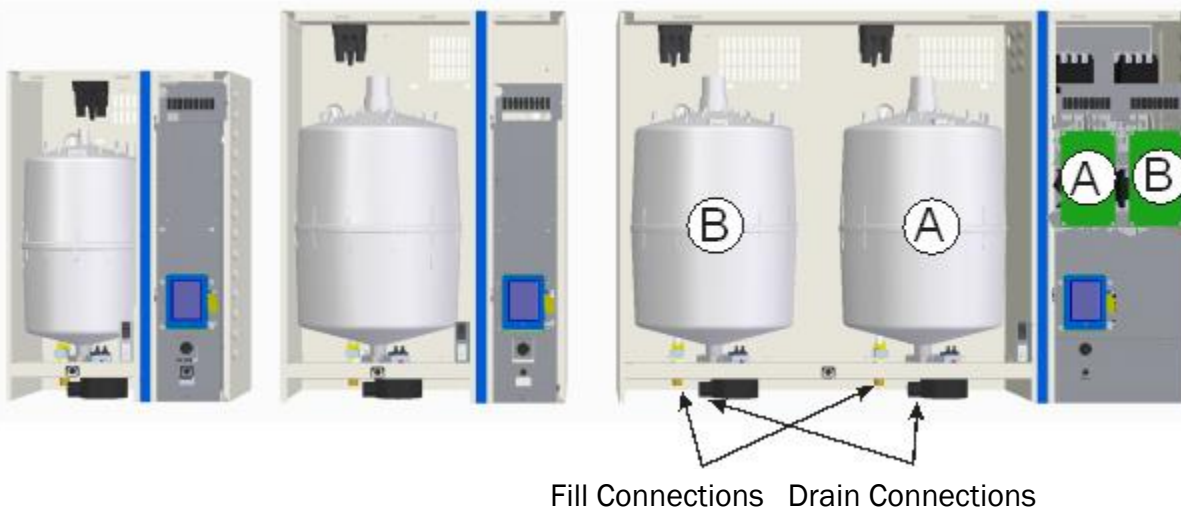

Figure 3: NH-EL Sizes
The NH-EL with its Integrated Controller and state-of-the-art features and options is the most advanced electrode steam humidifier available. As well as controlling the operation of the humidifier, the Integrated Controller can be connected directly to BACnet and to the Internet. The NH-EL is available in capacities ranging from 5 lb/hr (2 kg/hr) to 200 lb/hr (90 kg/hr). NH-EL humidifiers are packaged in three different cabinets depending on capacity. Figure 3: NH-EL Sizes shows the configuration and relative size of the three different cabinets. NH-EL models up to 100 lb/hr (45 kg/hr) are also available with a built on blower pack. Table 3 provides specifications for the NH-EL product line.
- Double units have two driver boards (designated A and B). One driver board controls each cylinder. (See Figure 3: NH-EL Sizes).